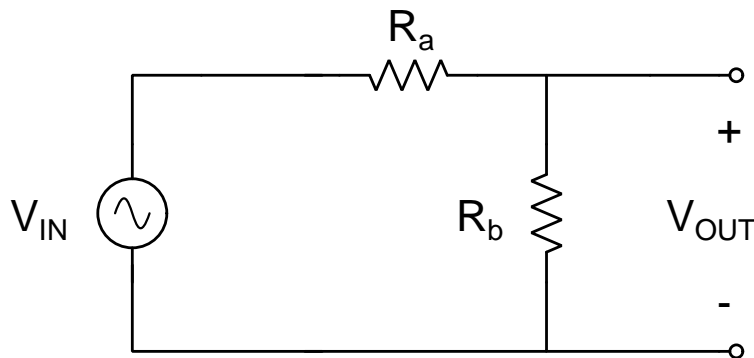
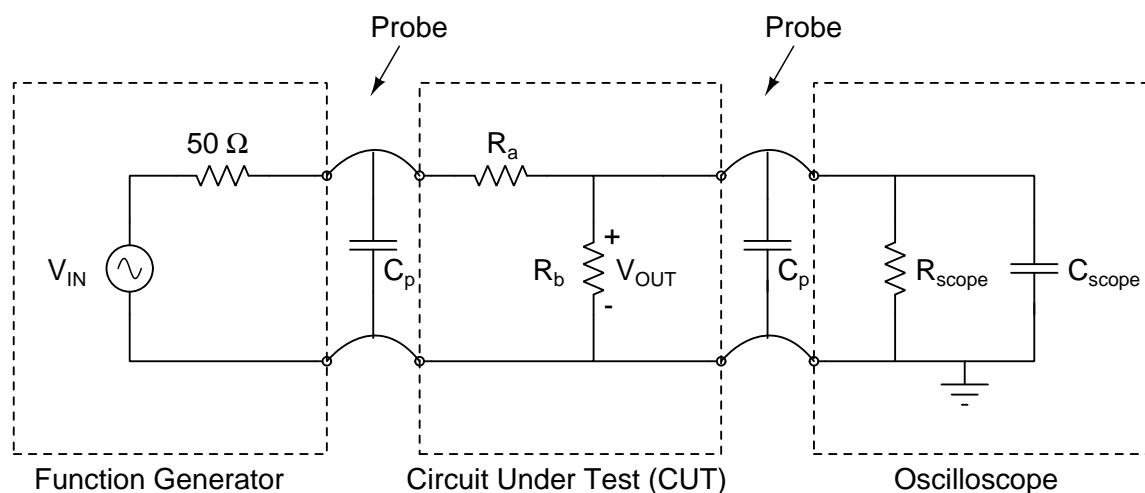

Figure 1: The circuit under test (CUT) is an ideal resistor divider circuit.
Figure 2: Measurement set-up for the resistor divider circuit.
Introduction In this lab you are to determine the voltage ratio, V_{OUT}/V_{IN} , produced by the voltage divider with resistors R_a and R_b shown in Figure 1.
This lab illustrates that the actual values of the components, and the impedances associated with the test equipment and cables, must be considered when determining the actual value of the voltage across a circuit element. All voltage sources, including batteries, have a finite source impedance. All measurement equipment, including oscilloscopes and digital volt meters (DVMs), have a non-infinite input impedance that presents a load to the circuit. Cables that connect the circuit to the test equipment introduce additional impedances in the circuit. The schematic of the circuit under test (CUT) when connected to a function generator and oscilloscope is shown in Figure 2.
4. For each of the three pairs of resistors, place two resistors with the same value on the breadboard to make a series circuit as shown in Figure 1. If the resistors have slightly different values, make sure you keep track of which resistor is which.
For the voltage divider circuit, an estimate of the error introduced by the measurement apparatus can be obtained by comparing the values of V_{OUT} obtained from an analysis of the circuit in Figure 1, with the values of V_{OUT} obtained from an analysis of the circuit in Figure 2.
1. Derive an equation $V_{OUT1}(R)$ expressing the output voltage V_{OUT} as a function of the resistance R for the circuit of **Figure 1**. Do not include in the calculation the capacitance of the probes, the output resistance of the FG, or the input impedance of the scope.
2. Derive an equation $V_{OUT2}(R)$ expressing the output voltage V_{OUT} as a function of the resistance R for the circuit of **Figure 2**. Include in the calculation the capacitance of the probes, the output resistance of the FG, and the input impedance of the scope. A Matlab[®] template file for solving for $V_{OUT2}(R)$ symbolically is available at https://davidkotecki.com/ECE214/docs/Matlab/Lab1_Postlab_Symbolic.m.
Use NGspice to simulate the expected output voltage V_{OUT} as a function of the resistance R for the circuit of **Figure 2**. Include in the simulation the capacitance of the 1X probes, the output resistance of the FG and the input impedance of the scope. A Matlab[®] template file is available on the course website at: (https://davidkotecki.com/ECE214/docs/Matlab/ECE214_2020_Lab1_B.m).